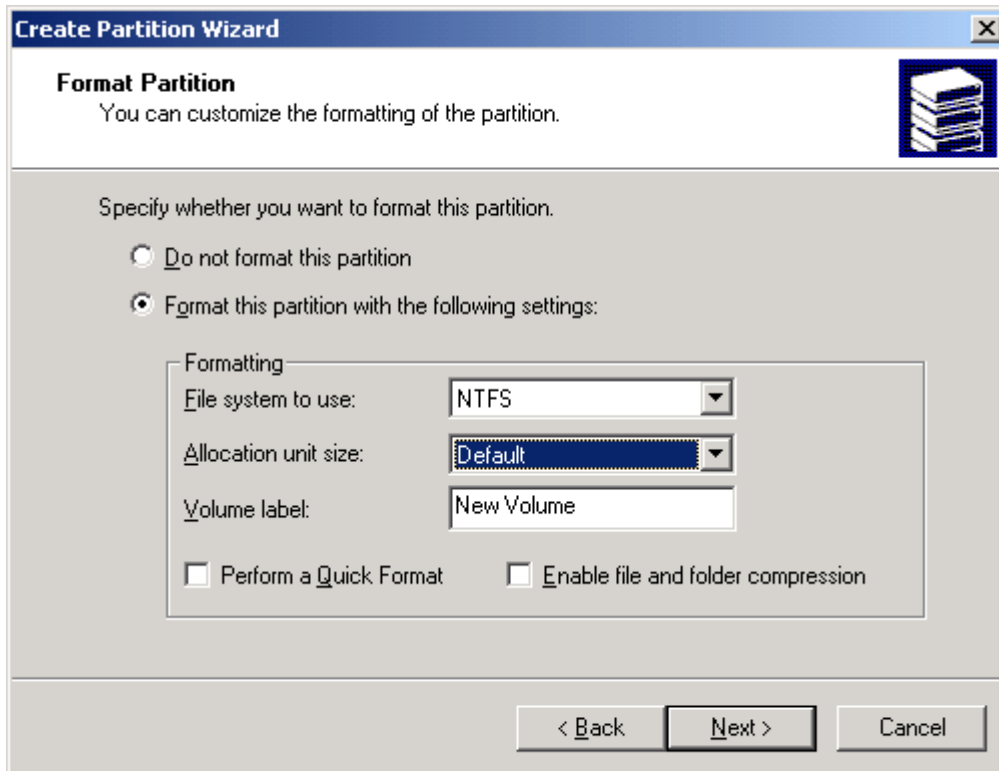

Figure 3.7 Format Partition Window
4. The Format Partition window appears (see Figure 3.7). Click **Next**.